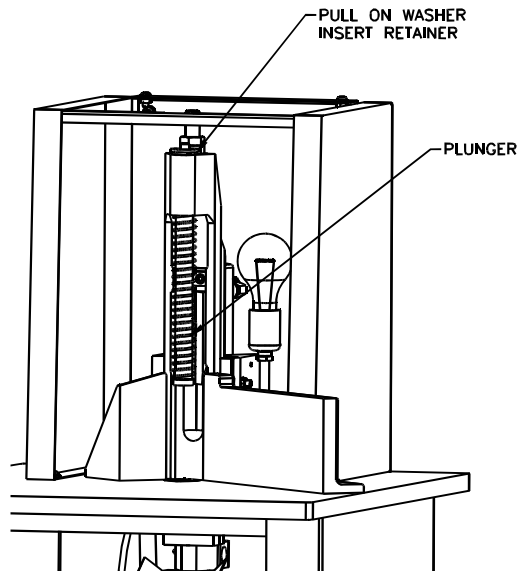

Figure 7 - Retain the Plunger in the Up Position
4. Lift the plunger by pulling the washer on top of the knife holder, Figure 7, page 14.